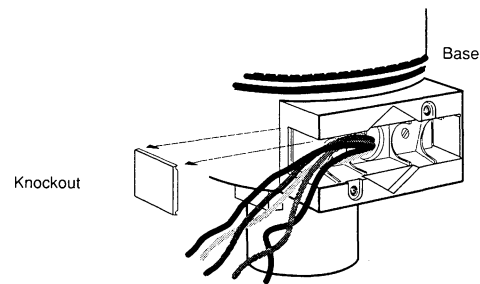

Figure-7 Removal of Knockout on Actuator Base.
2. Remove the knockout (e.g., with channel lock pliers) on selected side. See Figure-7.